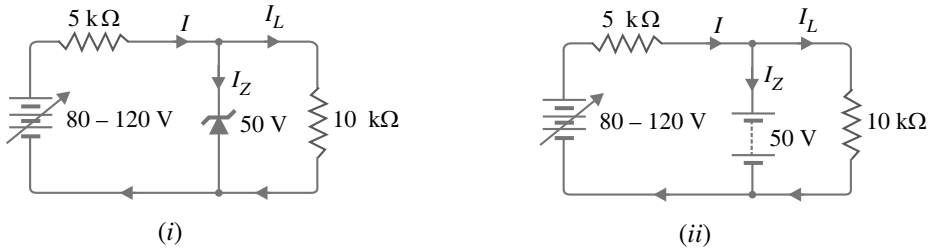

Fig. 4.71
**Example 4.41.** For the circuit shown in Fig. 4.71 (i), find the maximum and minimum values of zener diode current.
**Solution.** The first step is to determine the state of the zener diode. It is easy to see that for the given range of voltages (80 – 120 V), the voltage across the zener is greater than  $V_Z (= 50 \text{ V})$ . Hence the zener diode will be in the “on” state for this range of applied voltages. Consequently, it can be replaced by a battery of 50 V as shown in Fig. 4.71 (ii).